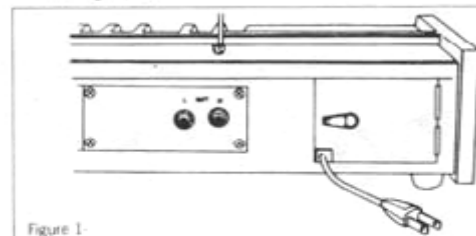

Figure 1-
1. Connect AC line cord (found inside recessed compartment on rear of unit, figure 1) to local voltage 50/60Hz outlet.
2. Connect audio cable (shielded-type) from jack marked "Output", to input of your amplifier. Utilize jack marked "H" for high impedance use (100K Ω) or jack marked "Low" for low impedance (5K Ω) shown in figure 1.
3. Switch on/off control to "On" position. If pilot lamp fails to light, check fuse found in rear compartment, figure 1 and replace *With identical rating only.*